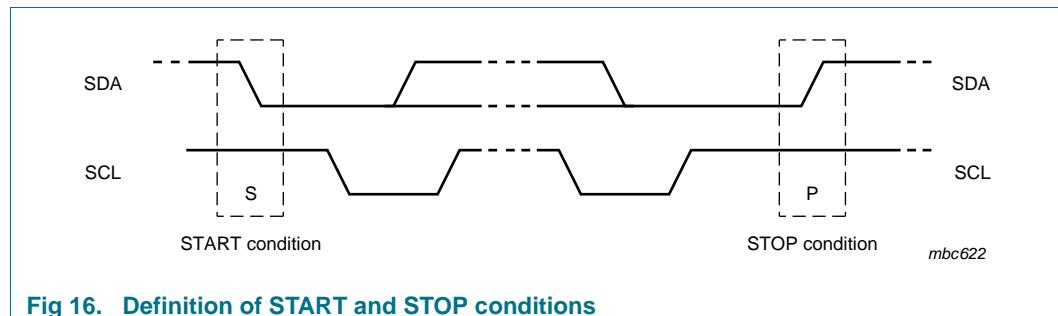

Fig 16. Definition of START and STOP conditions
Both data and clock lines remain HIGH when the bus is not busy. A HIGH-to-LOW change of the data line, while the clock is HIGH, is defined as the START condition (S). A LOW-to-HIGH change of the data line, while the clock is HIGH, is defined as the STOP condition (P). The START and STOP conditions are illustrated in Figure 16.